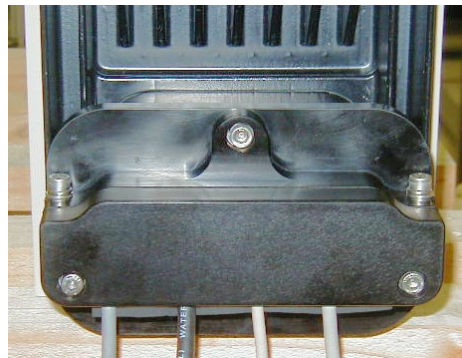

Figure 9-7. Splash Guard Installed
8. Install the splash guard using two M6 x 20 screws, two M6 lock washers, and two M6 flat washers. See Figure 9-7.